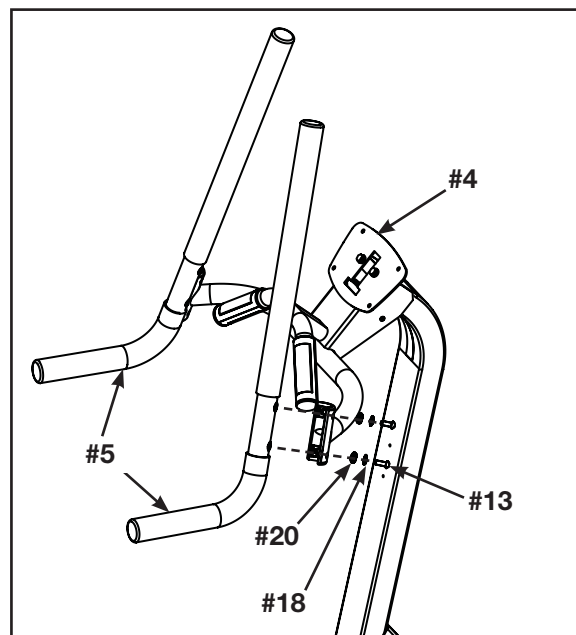

Figure 7
- A. Locate the two handrails (#5), four screws 5/16-18 x 7/8" (#13), four washers 5/16" (#18) and four shoulder washers (#20). See Figure 7.
- B. Using a 3/16" allen wrench secure the handrails (#5) to the display handrail (#4) using the four screws 5/16-18 x 7/8" (#13), four washers 5/16" (#18) and four shoulder washers (#20). See Figure 7.